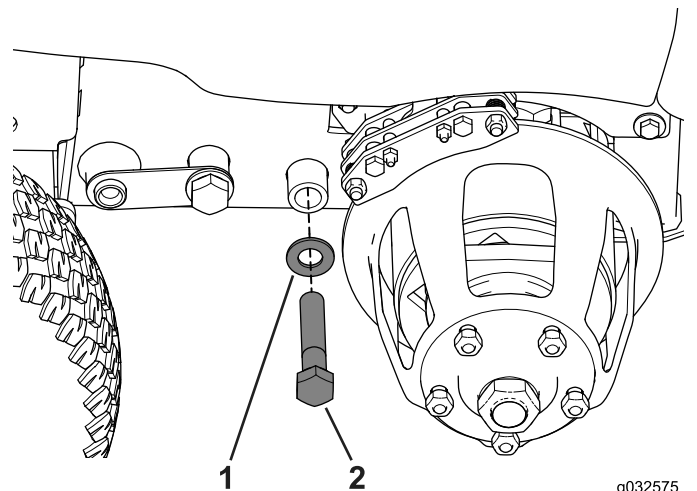

Figure 77
4. Install the bolt (3/4 x 4 inches) as shown in Figure 77